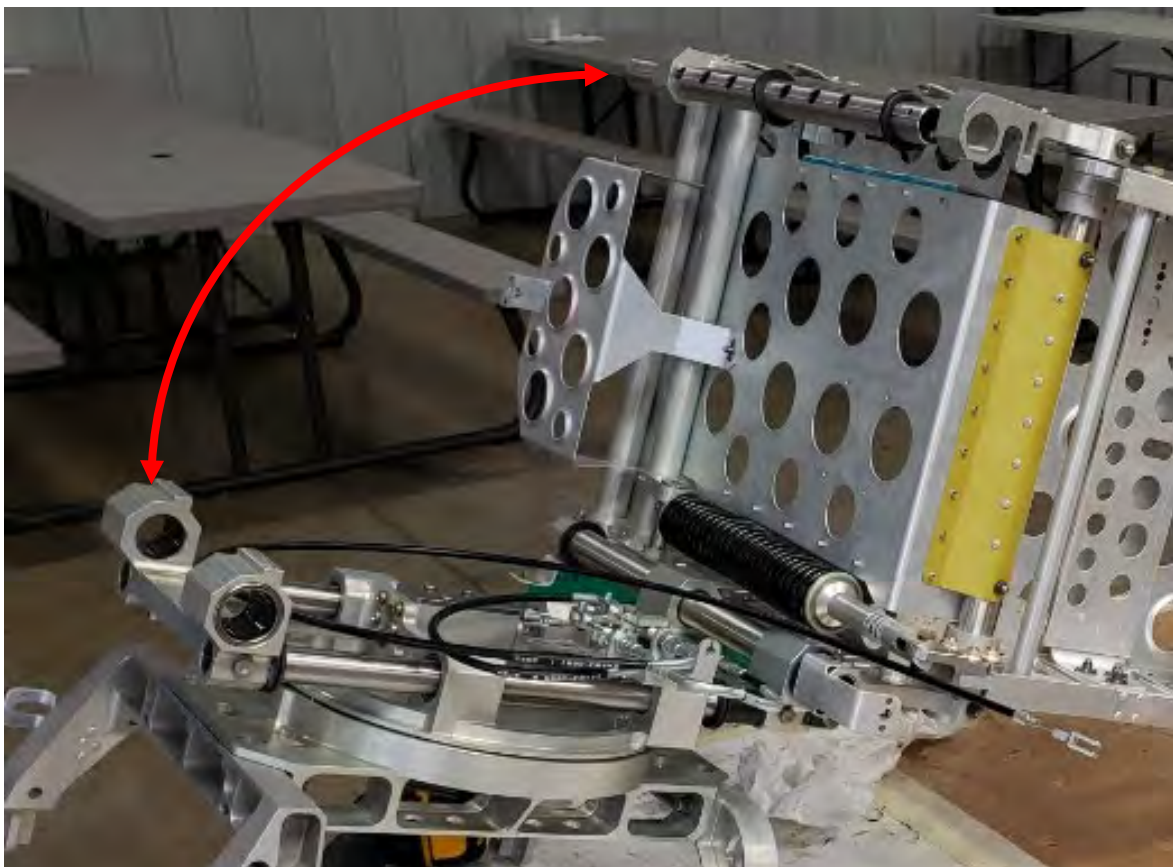

FIGURE 2
- g. Rotate the upper seat assembly (3-5, 3-10) from the base turntable and mechanism assembly (3-105, 3-110) as shown in figure 2.